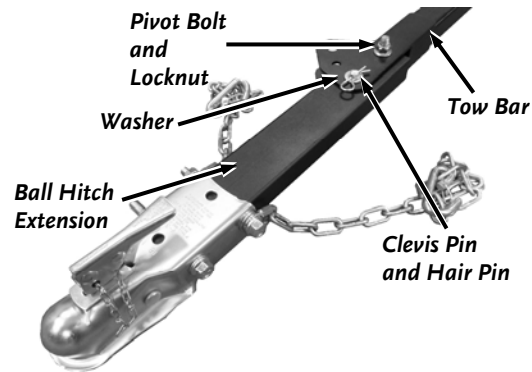

Figure 16
7. Secure the Ball Hitch Extension from the kit to the Tow Bar using the Pivot Bolt and Locknut you removed in the last step (**Figure 16**).